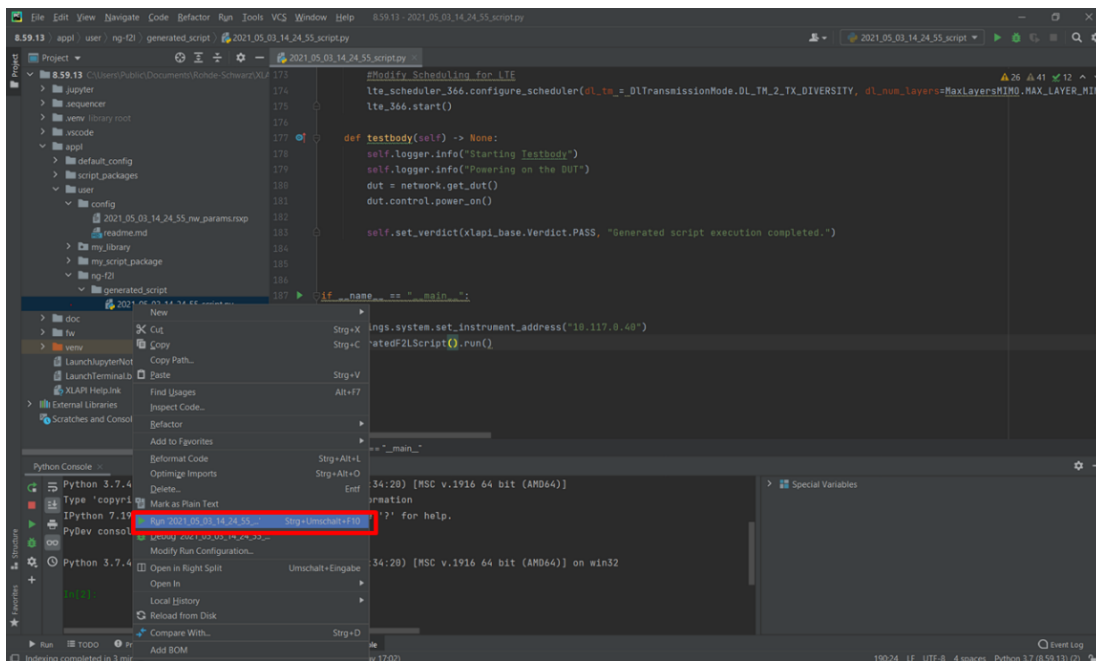

Fig. 2-22 Run the script in PyCharm from project list
2. Right mouse click on the script and in the drop down menu select the 'Run' option to run the script (Fig. 2-22)